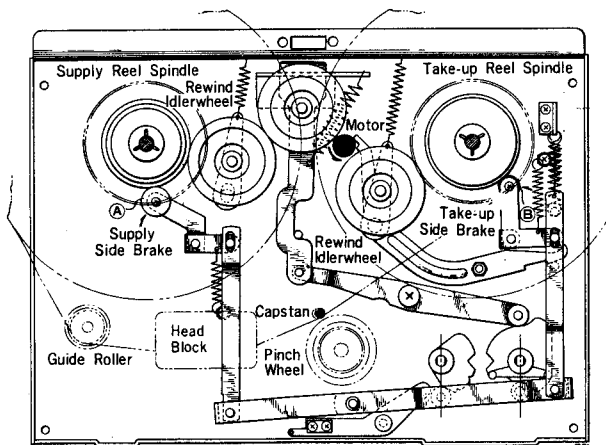

Fig. 5
Turn the stop lever in "STOP" position, *Brake Rollers (A) and (B)* depress reel spindles to stop rotation of the reel spindles. As the brake rubber depresses the plastic rollers under the reel spindles, no friction works on the tape itself. (See figure 5)